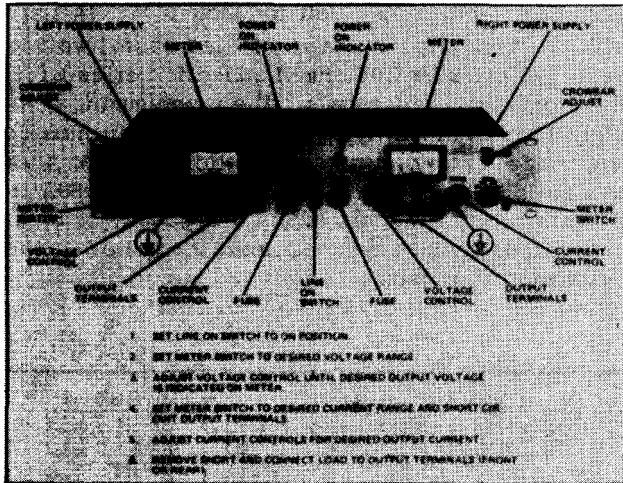

Figure 3-1. Front Panel Controls and Indicators
3-2 The front panel controls and indicators, together with the normal turn-on sequence, are shown in Figure 3-1.
### 3-7 CONSTANT VOLTAGE (See Figure 3-1 for controls and indicators.)
**3-9 CONSTANT CURRENT (See Figure 3-1 for controls and indicators.)**
**3-11 CONNECTING LOAD (See Figure 3-1 for output terminals.)**
**3-24 REMOTE PROGRAMMING, CONSTANT CURRENT (See Figure 3-1 for controls and indicators.)**
3-39 PARALLEL OPERATION (See Figure 3-1 for controls and indicators.)